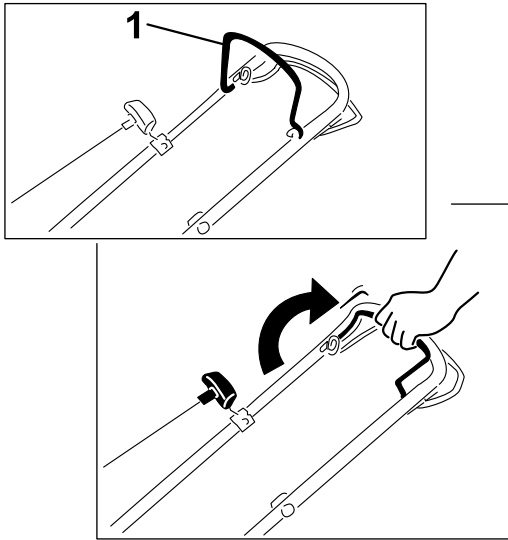

Figure 17
1. Pull the blade-control bar to the handle and hold it (Figure 17).